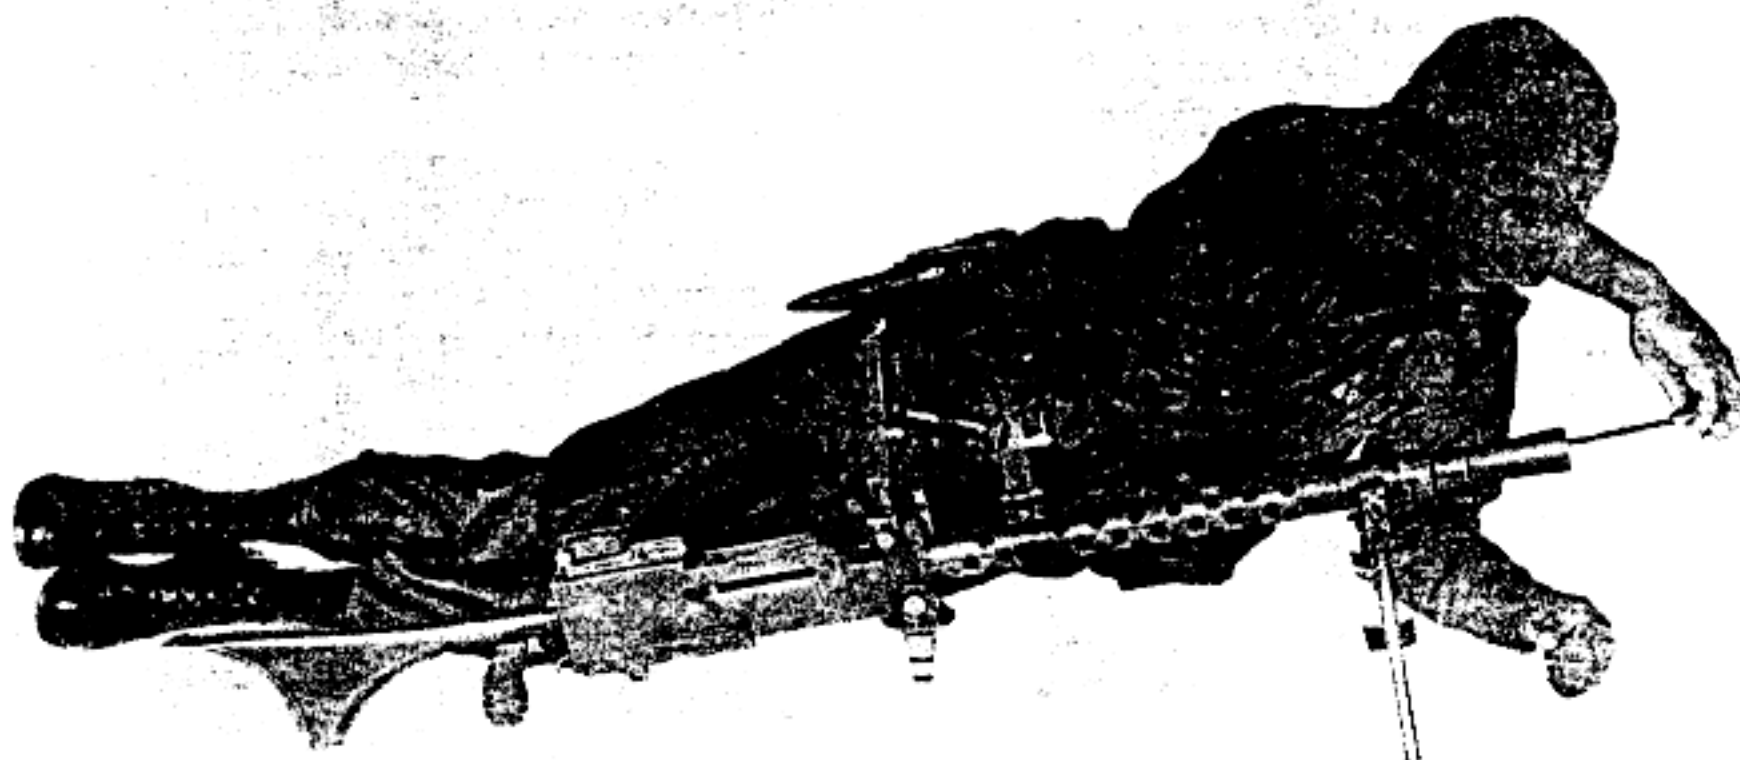

Figure 77. Gunner inspecting barrel.
- (4) Calls for and receives the cleaning rod and combination wrench from the assistant gunner, and insures that the barrel is not obstructed by inserting and withdrawing the cleaning rod (fig. 77).
- (5) Insures that the flash hider is positioned properly and the retaining clip assembly is engaged in the slots in the front barrel bearing and flash hider, and that the locking band is secured.
- (6) Insures the bipod lockring is positioned properly.
- (7) Checks the carrying handle to see that it can be positioned so it will not interfere during aiming and firing.
- (8) Raises the front sight post and insures that the front sight bracket body and blade are tight, then lowers it.
- (9) Releases the bolt allowing it to move all the way forward and lifts the trigger to see that the striker protrudes through the aperture in the face of the bolt after the firing pin is released.
- (10) Checks to see that all moving parts are lightly oiled and function without excessive friction.
- (11) Checks the headspace adjustment and, if necessary, makes the correct adjustment insuring that the barrel locking spring is seated in a notch in the barrel, and the extractor is down.